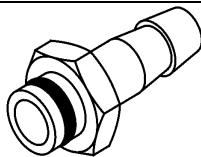

FIG.19
Connect the pipe for discharging used water into the pipe fitting for back discharge used water (*FIG.19*) and screw into the used water tap (*FIG. 1–pos.4*).